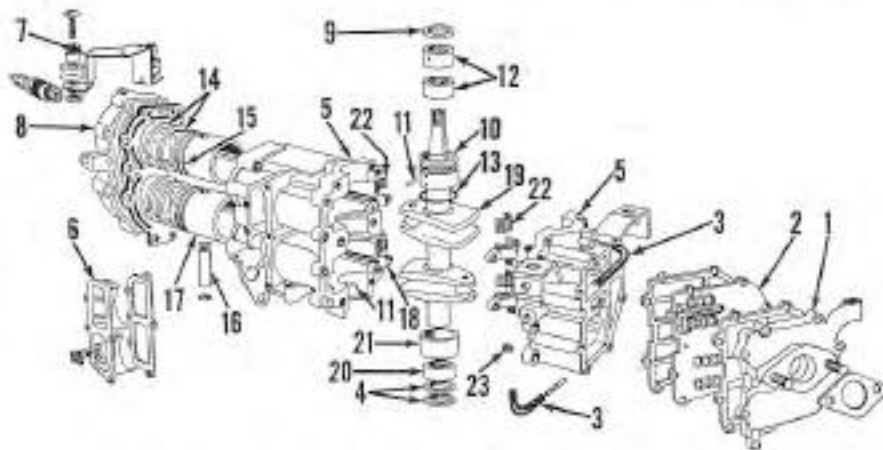

Fig. Mc30 — Exploded view of power head used on 5 horsepower models.
3 Horsepower Models: Refer to Fig. Mc30. One half of the crankcase is integral with the cylinder block. Upper and lower main bearings are of the needle roller type enclosed in a cage. The center main bearing of die-cast bronze is integral with the cylinder block. To disassemble, remove the cylinder head (8), inlet manifold (1) and transfer port covers (6); then unbolt and remove the crankcase front half. Pistons, rods, crankshaft and bearings are now accessible for removal and overhaul as outlined in the appropriate following paragraphs.